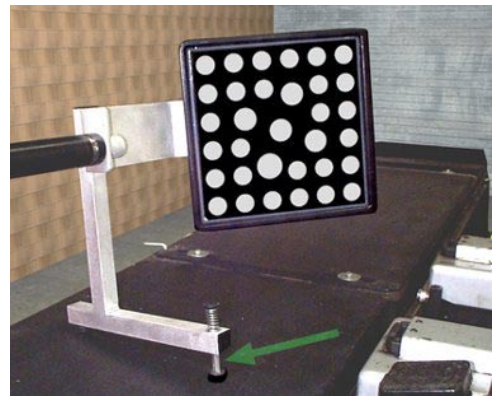

Figure 3-92
20. Extend the plunger under the rear foot. (Figure 3-92) Click on **<OK>** when done.